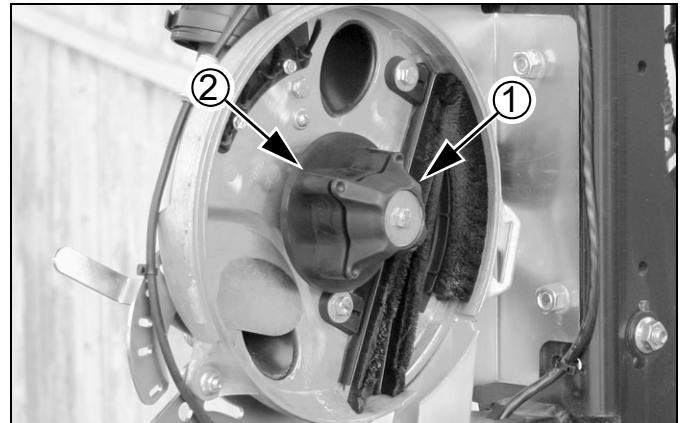

Figure 92
Refer to Figure 92 (depicting an empty meter)
1. Remove rain cover. If seed is present, close shutter ④ to prevent more seed from entering meter. Attach funnel (page 94).
2. Hold seed disk in meter. Rotate disk clamp ① counterclockwise 45° to release disk.
4. Clean seed from all brushes. Clean disk seat (② in *Figure 92* page 73), so that new disks can seat fully. Inspect brushes for excess wear and damage. See “**Meter Brush Maintenance**” on page 96.